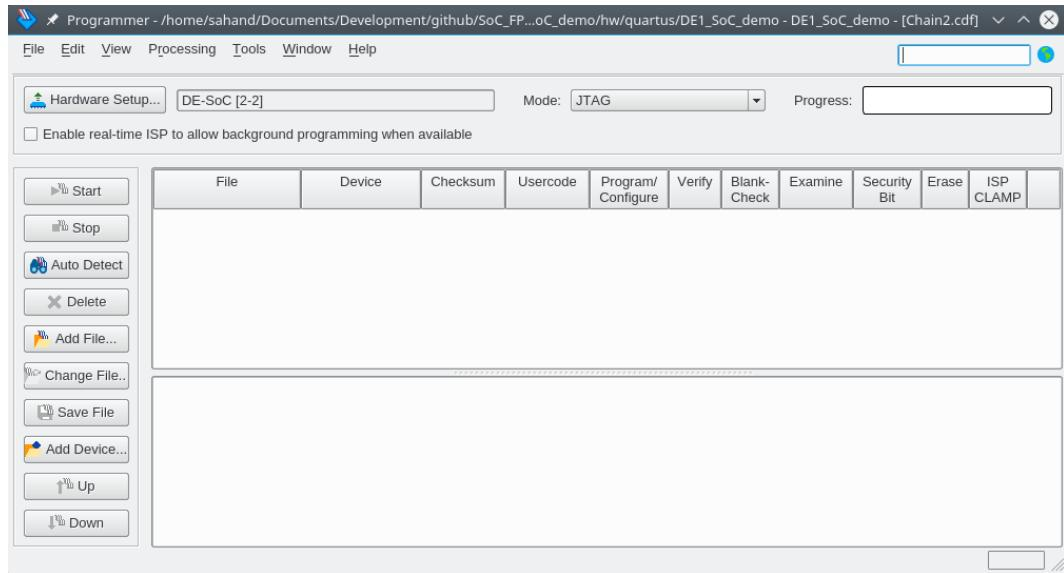

Figure 9-19. Quartus Prime Programmer
42. Choose the “Auto Detect” button on the left of Figure 9-19, then choose “5CSEMA4”, as shown in Figure 9-20.